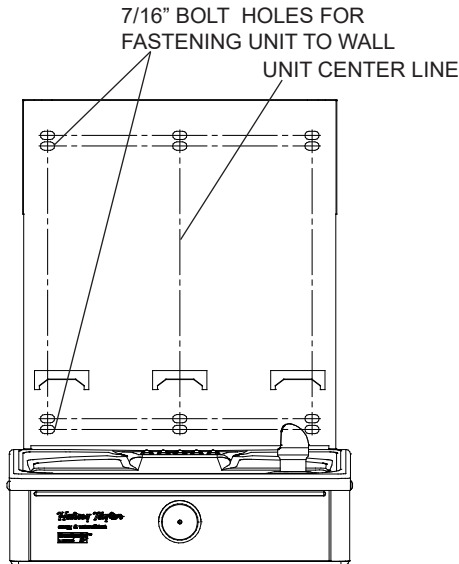

Fig. 7
- 2) **Remove wall mounting plate from Bottle Filler.** Place wall plate against wall on top of basin. Center the wall plate side to side with the basin. Mark the six (6) mounting holes with a pencil (See Fig. 7).
- 4) **Install wall mounting plate to wall** using six (6) 7/16" obround mounting holes (mounting bolts not included) (See Fig. 7). Use appropriate fasteners for your wall type.